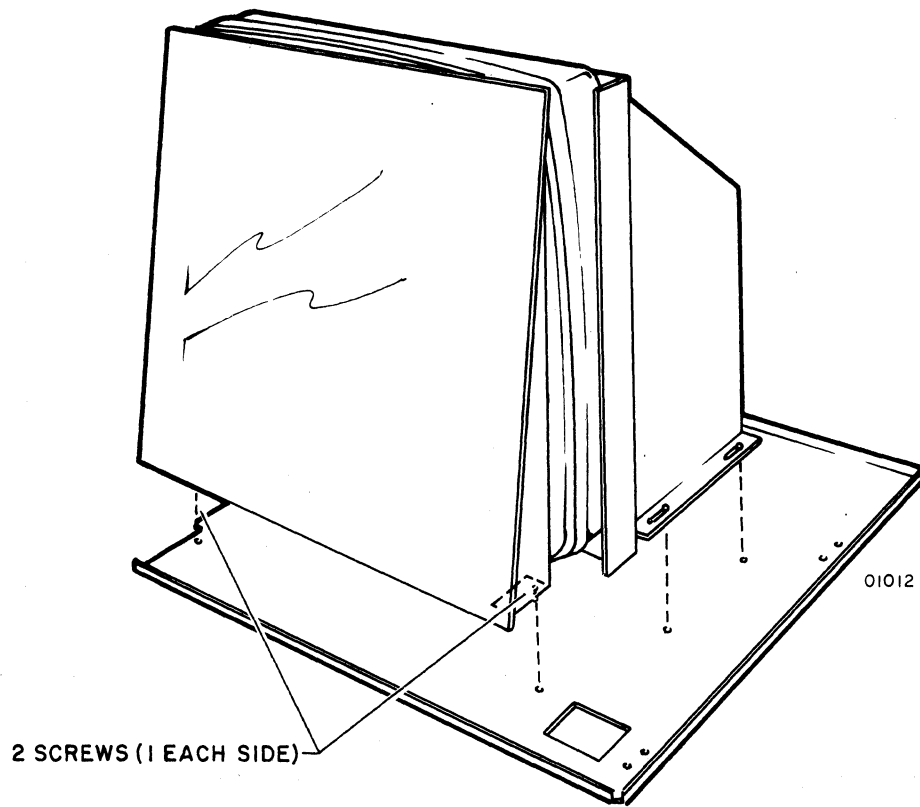

Figure 6-21. Display Faceplate Mounting
- 5) Remove screws located on each side at the bottom of the plate which supports the faceplate, figure 6-21.